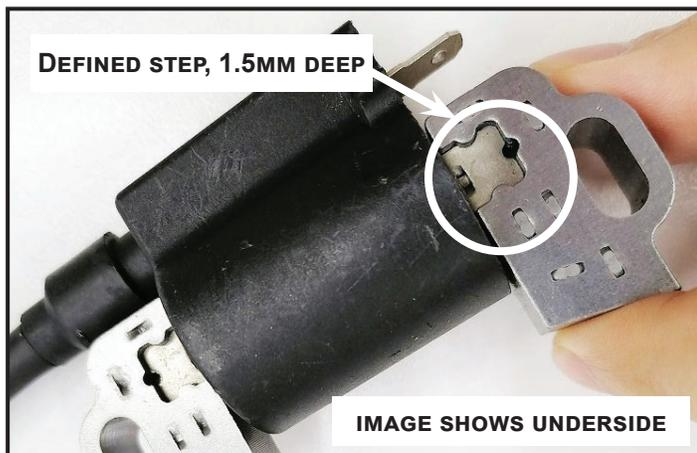

Figure 1
1. Identify a bad Ignition Coil. Remove Ignition coil from Engine. Turn over and inspect the underside. An Ignition coil with a 1.5mm step from the laminate core is a bad coil. See Figure 1.